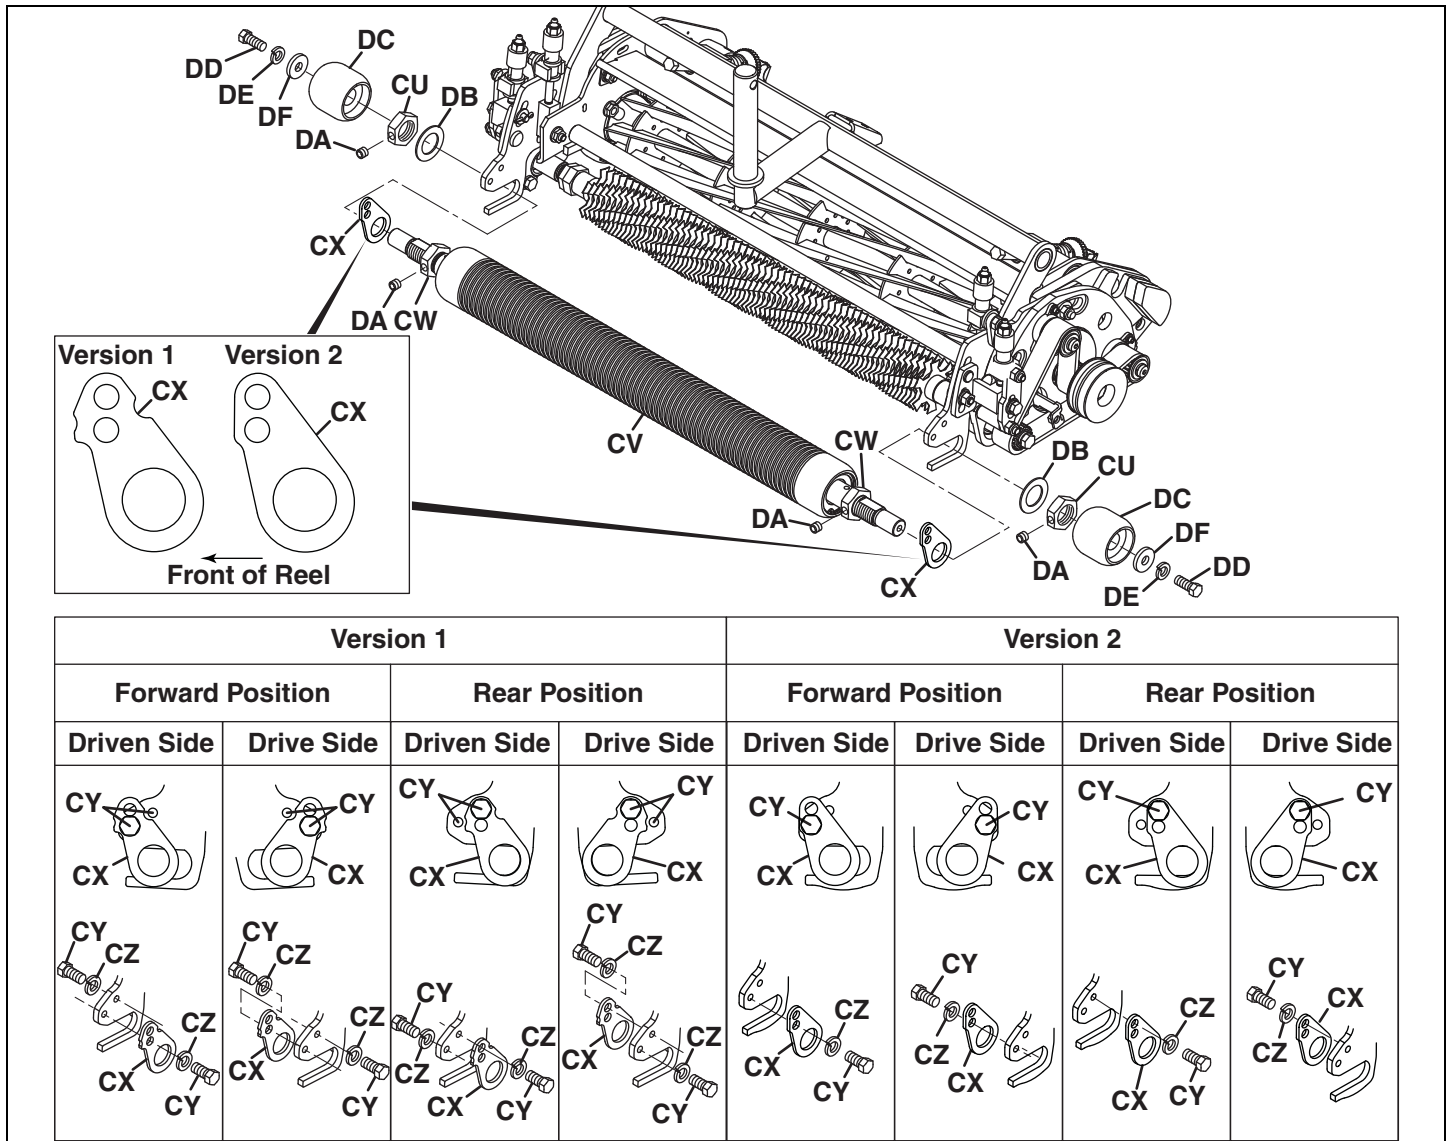

Figure 12
2. Slide one roller plate (**CX**) onto both ends of roller. See **Figure 12** for proper orientation of plates.
4. Secure roller plates (**CX**) to inside of drive/driven assemblies using one 5/16-18 x 5/8" hex head screw (**CY**) and lockwasher (**CZ**) on both ends of reel. Make certain roller plates are correctly installed for roller used. See forward/rear position setup in **Figure 12**.